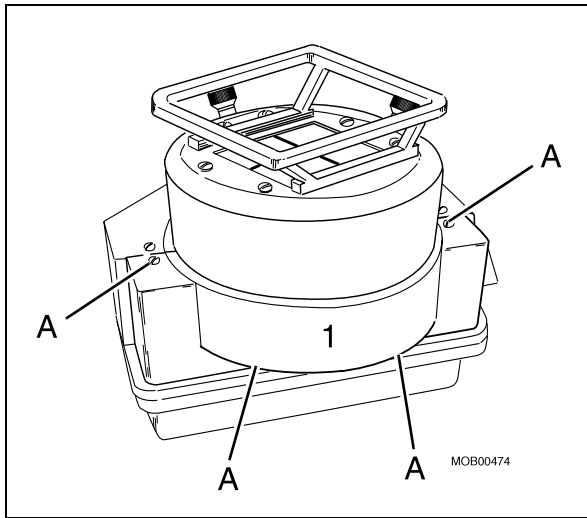

Fig. 29:
- Remove the cover (1/Fig. 29 / p. 52) by removing the four screws marked "A" (Fig. 29 / p. 52). Turn the collimator so that the lamp housing is accessible.
- Reattach the cover (1/Fig. 29 / p. 52).